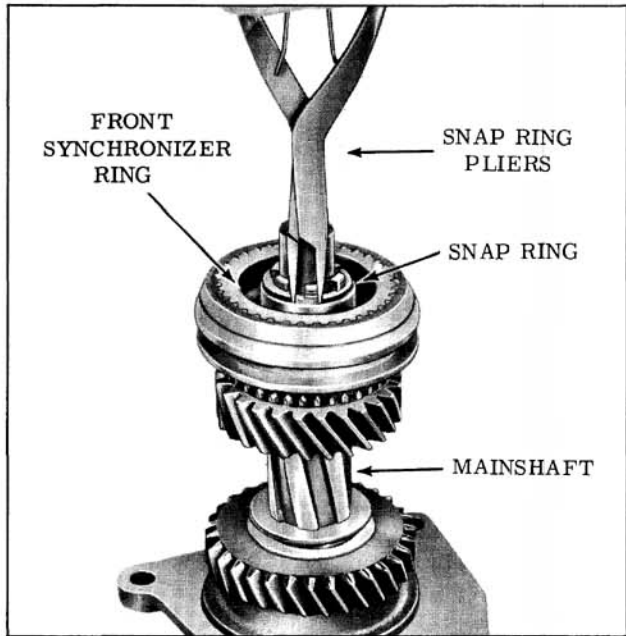

Fig. 7-40 Mainshaft Disassembly
1. Remove synchronizing ring and clutch hub retainer snap ring from end of mainshaft. (Fig. 7-40)
11. Install sleeve, hub and synchronizing ring assembly on mainshaft, clutch sleeve shoulder facing to rear. Install retaining snap ring. (Fig. 7-40)